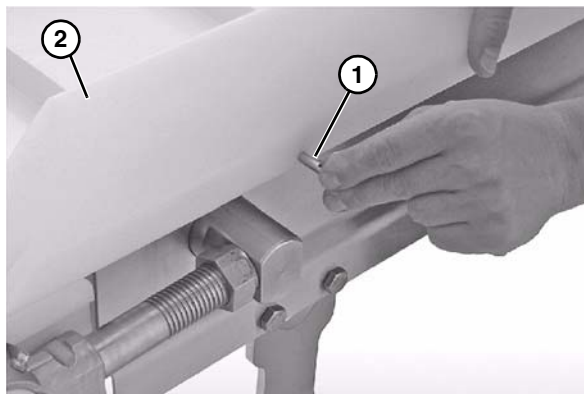

Figure 32
3. Insert the pull pins (**Figure 32, item 1**) into the holes in the guide (**Figure 32, item 2**).